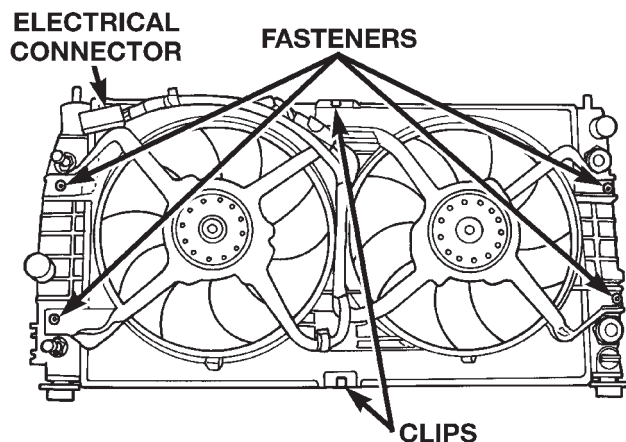

Fig. 19 Fan Module—Removal and Installation
(7) Disconnect the fan electrical connector (Fig. 19).
(8) Remove fan module (Fig. 19).